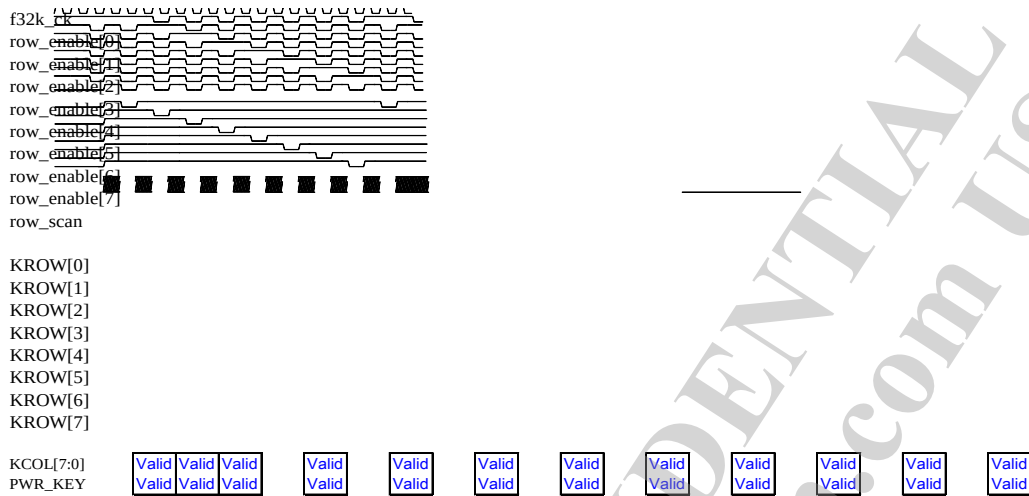
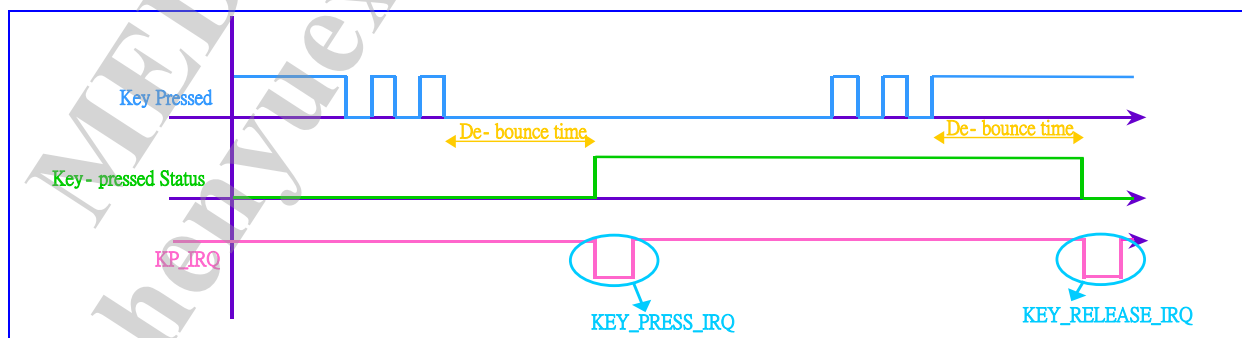
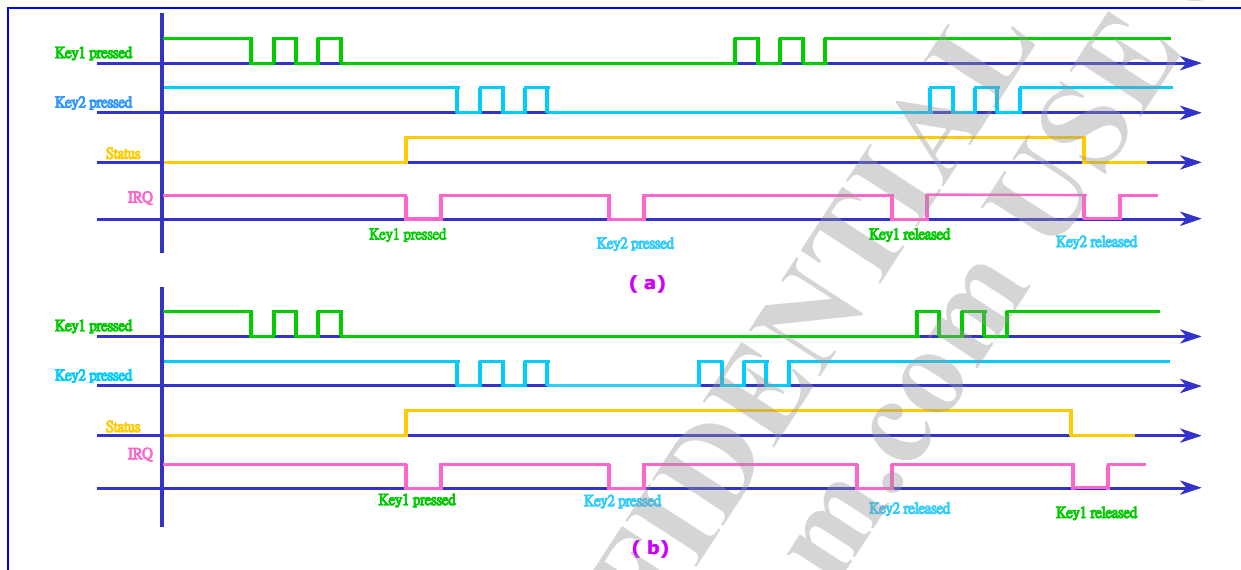

Figure 31. 8x8 normal keypad mode scan waveform
Figure 33. One key pressed with de-bounce mechanism denoted
Figure 34. (a) Two keys pressed, case 1 (b): Two keys pressed, case 2
This keypad detects one or two key-pressed simultaneously with any combination. Figure 31 shows the scan waveform of the 8*8 normal keypad mode. Figure 33 shows one key pressed condition. Figure 34(a) and (b) illustrate two keys pressed cases. Since the key press detection depends on the HIGH or LOW level of the external keypad interface, if keys are pressed at the same time and there exists a key that is on the same column and the same row with the other keys, the pressed key cannot be correctly decoded. For example, if there are three keys pressed: key1 = (x1, y1), key2 = (x2, y2), and key3 = (x1, y2), then both key3 and key4 = (x2, y1) will be detected, and therefore they cannot be distinguished correctly. Hence, the keypad can detect only one or two keys pressed simultaneously at any combination. More than two keys pressed simultaneously in a specific pattern will retrieve the wrong information.